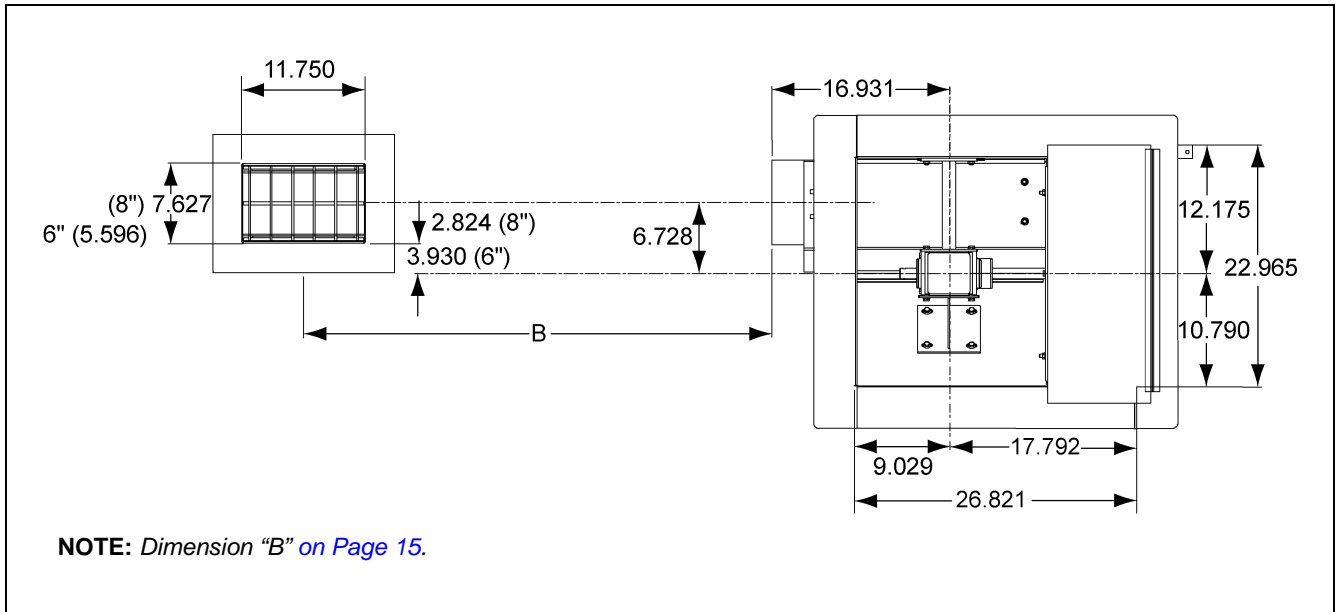
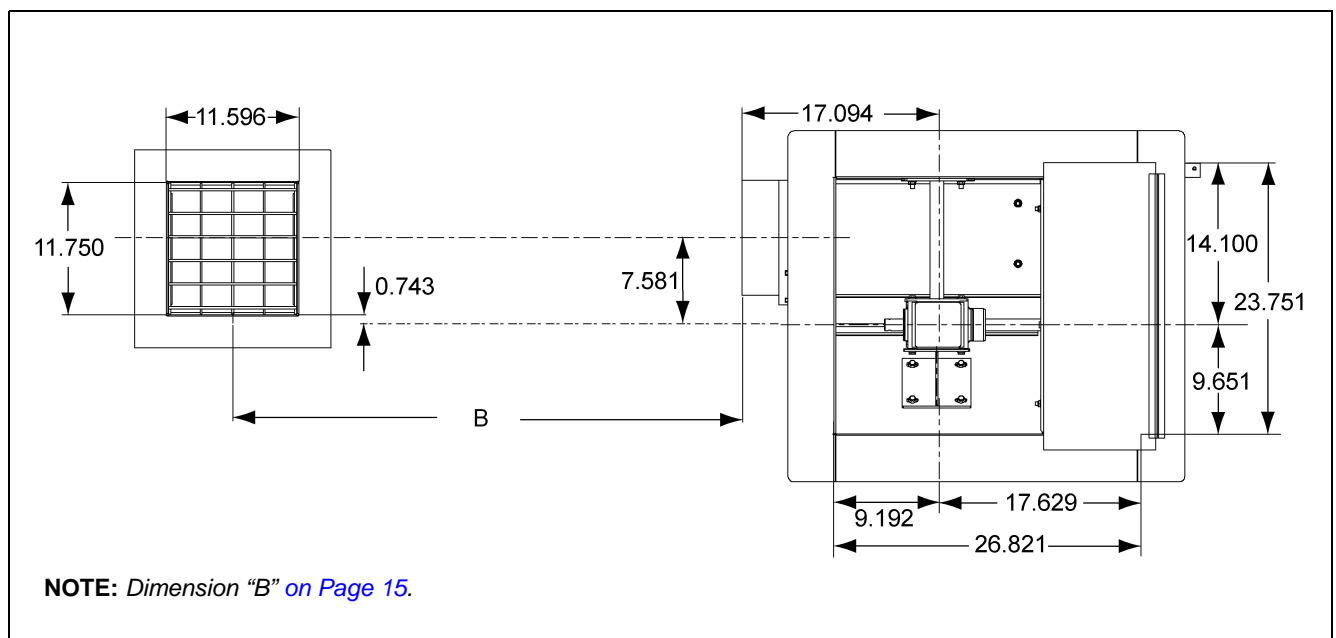
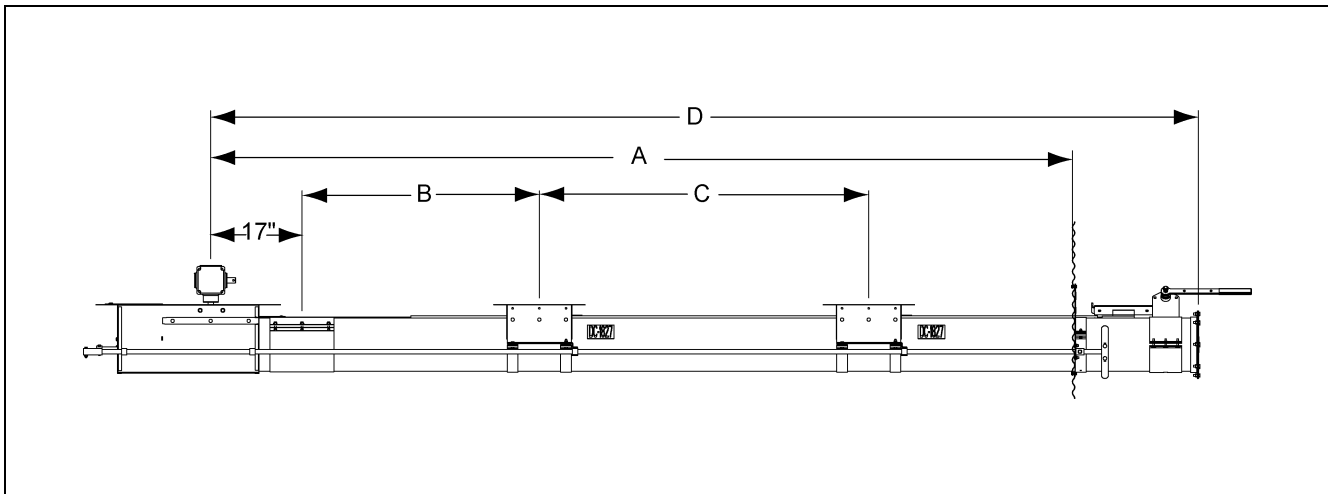

Figure 4B 6" and 8" (15.24 cm 20.32 cm) Center and Intermediate Well(s) Bin Floor Cut-Outs
Figure 4C 10" (25.40 cm) Center and Intermediate Well(s) Bin Floor Cut-Outs
Figure 4D
See Figure 4B for cut-out size and location of 6" and 8" wells. *See Figure 4C* for 10" wells. Locate the vertical shaft between the gear boxes in the center of the bin. Place suitable supports under the center well to hold it in position.
1. Cut openings in the bin floor for the intermediate wells. *See Figure 4B* and *Figure 4C*. The number of wells depends on bin size. The distances between intermediate wells and the center well should be equal. *See Figure 4D* and *Chart below*.